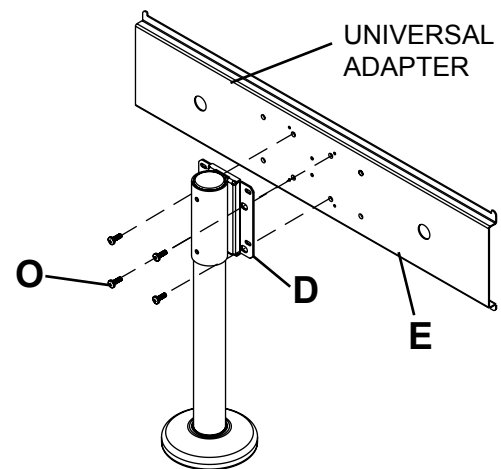

fig. 9.2
For installing screens with Universal Adapter Plate: Using the penta-pin driver (Q), attach universal adapter plate (E) to adapter plate (D) using four M10 x 15 mm penta-pin screws (O) as shown in figure 9.2.